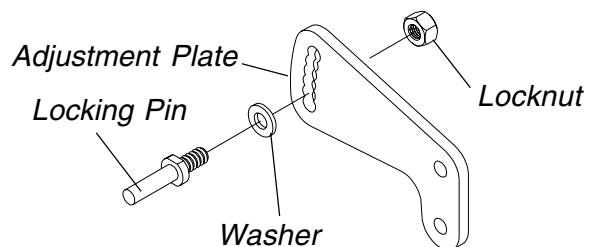

FIGURE 10 - ADJUSTING THE CANTILEVER ARMS
Corresponding Arm Adjustment to Back Angle (FIGURES 10 and 11)
2. Remove the locknut that secures the locking pin to the adjustment plate (FIGURE 10).